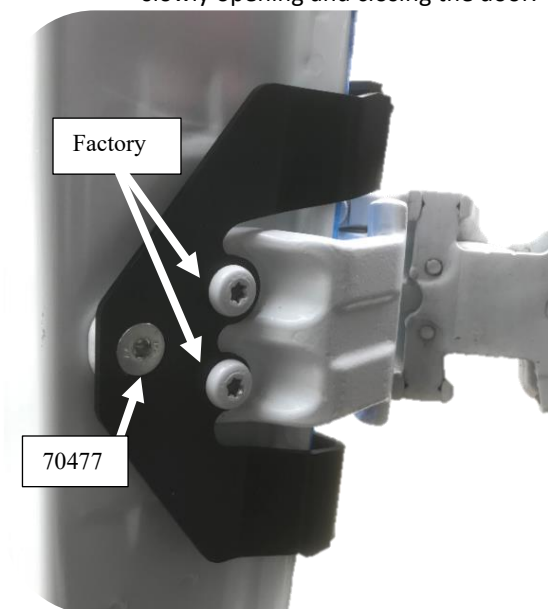

Figure 9: Installed Lower Bracket
17. Use the saved factory hardware to reinstall the two outer bolts and the provided M8 countersunk bolt (70477) to secure the front hole (Figure 9).